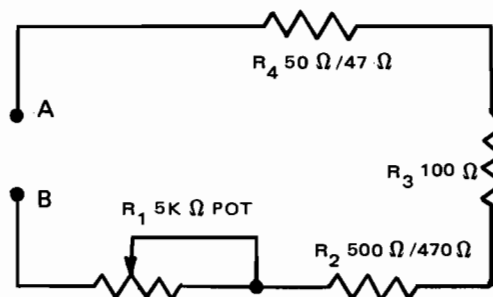

Fig. 5-1-3A
- Connect potentiometer into a series circuit as shown in Fig. 5-1-3A.
- In Fig. 5-1-3A, if the circuit was broken between R_2 and R_3 , total resistance of the circuit would be _____